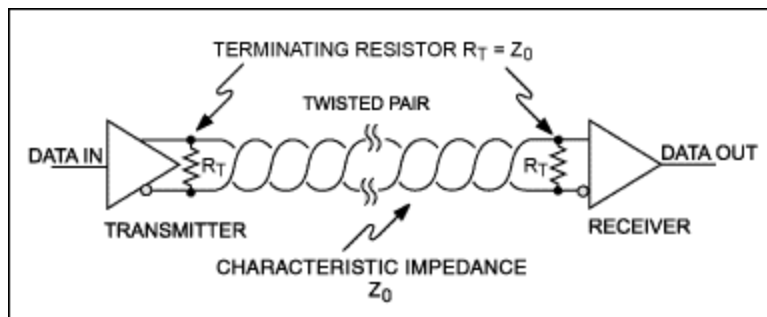

Figure 10. Single transmit, single receive network.
- Proper wiring^[6]: RS-485 specifies differential transmission, which requires two signal wires in addition to a ground wire (commonly a 24AWG twisted pair) to transmit the signal. The two signal wires carry signals differentially, and greatly reduce the problems of radiated EMI and EMI pickup due to the excellent common mode rejection. The common characteristic impedance of this wire is between 100Ω and 120Ω , which is also the resistance used to terminate each end of the cable—in the interest of reducing reflections and other transmission-line effects. **Figures 10 and 11** illustrate properly wired systems.